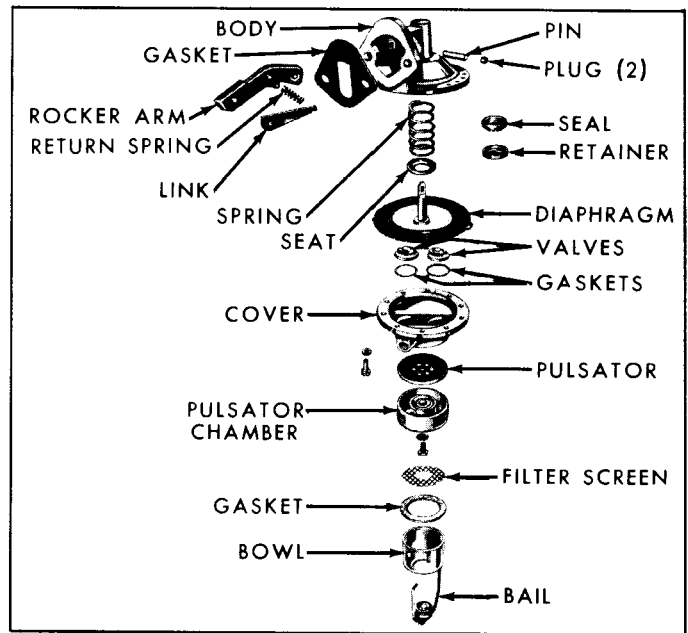

Fig. 8B-12—Single Action Fuel Pump Disassembled—(60C-6813)
See figure 8B-12 for parts identification and proceed as follows:
5. Using Tool 9350, drive the pin and plugs out of the main body. See figure 8B-8.